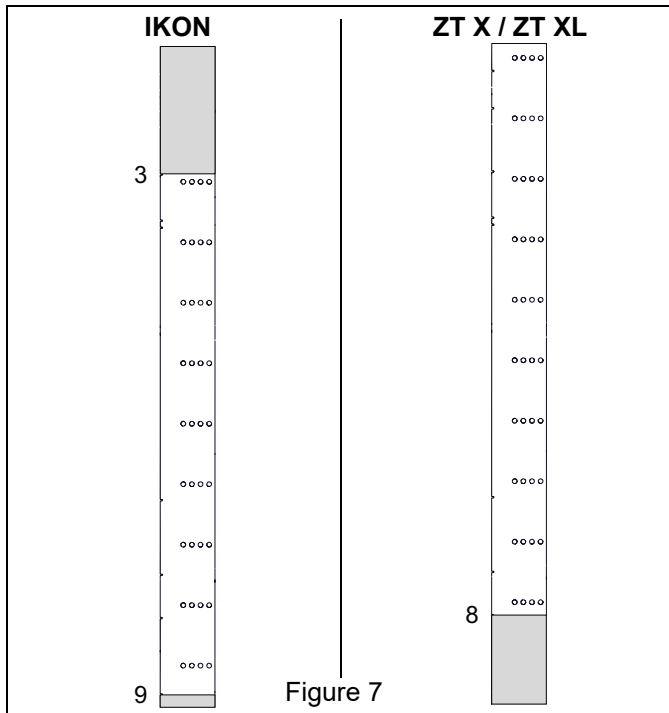

Figure 7
1. Trim rubber skirt (item 1) as shown in Figure 7.